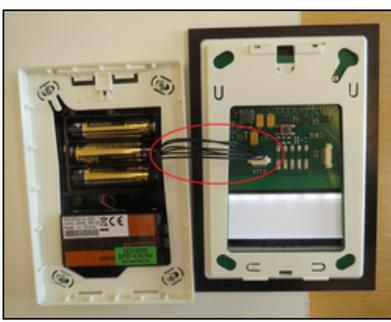

Figure 26
4. Connect the access panel to the main control unit; see details in Figure 26 and in step 5.